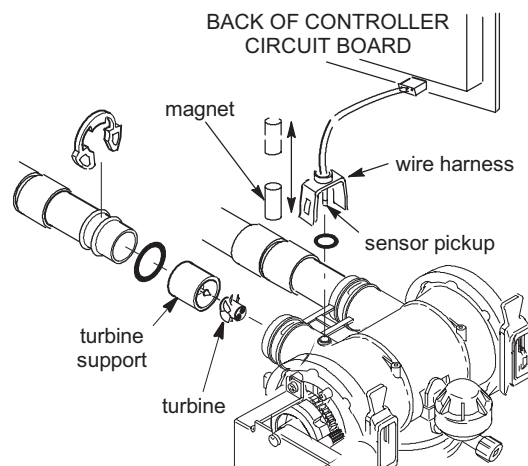

FIG. 90
6. If the display reading does not change with the faucet open, pull the wire harness from the valve outlet port (See Figure 90).